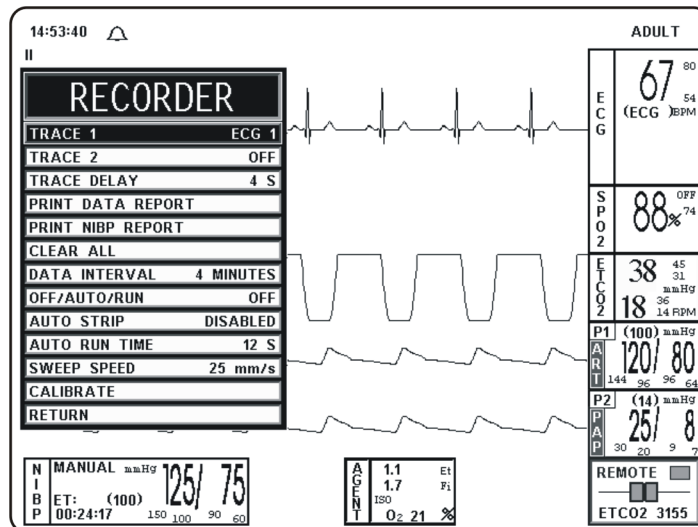

Figure 5-1. The RECORDER Menu
5.2 The RECORDER Menu. The **RECORDER** Menu provides adjustments that will allow this monitor to supply concise and up to date printouts suitable to a wide variety of situations. Pressing the **RECORDER FUNCTIONS** Menu-Select key brings up the **RECORDER** Menu (See **Figure 5-1**). If the optional recorder is not installed, the message "**THIS OPTION NOT INSTALLED**" is displayed on the screen. *This menu has a time-out feature. If no action is taken for approximately 60 seconds, the monitor will automatically return to the Normal Screen.*